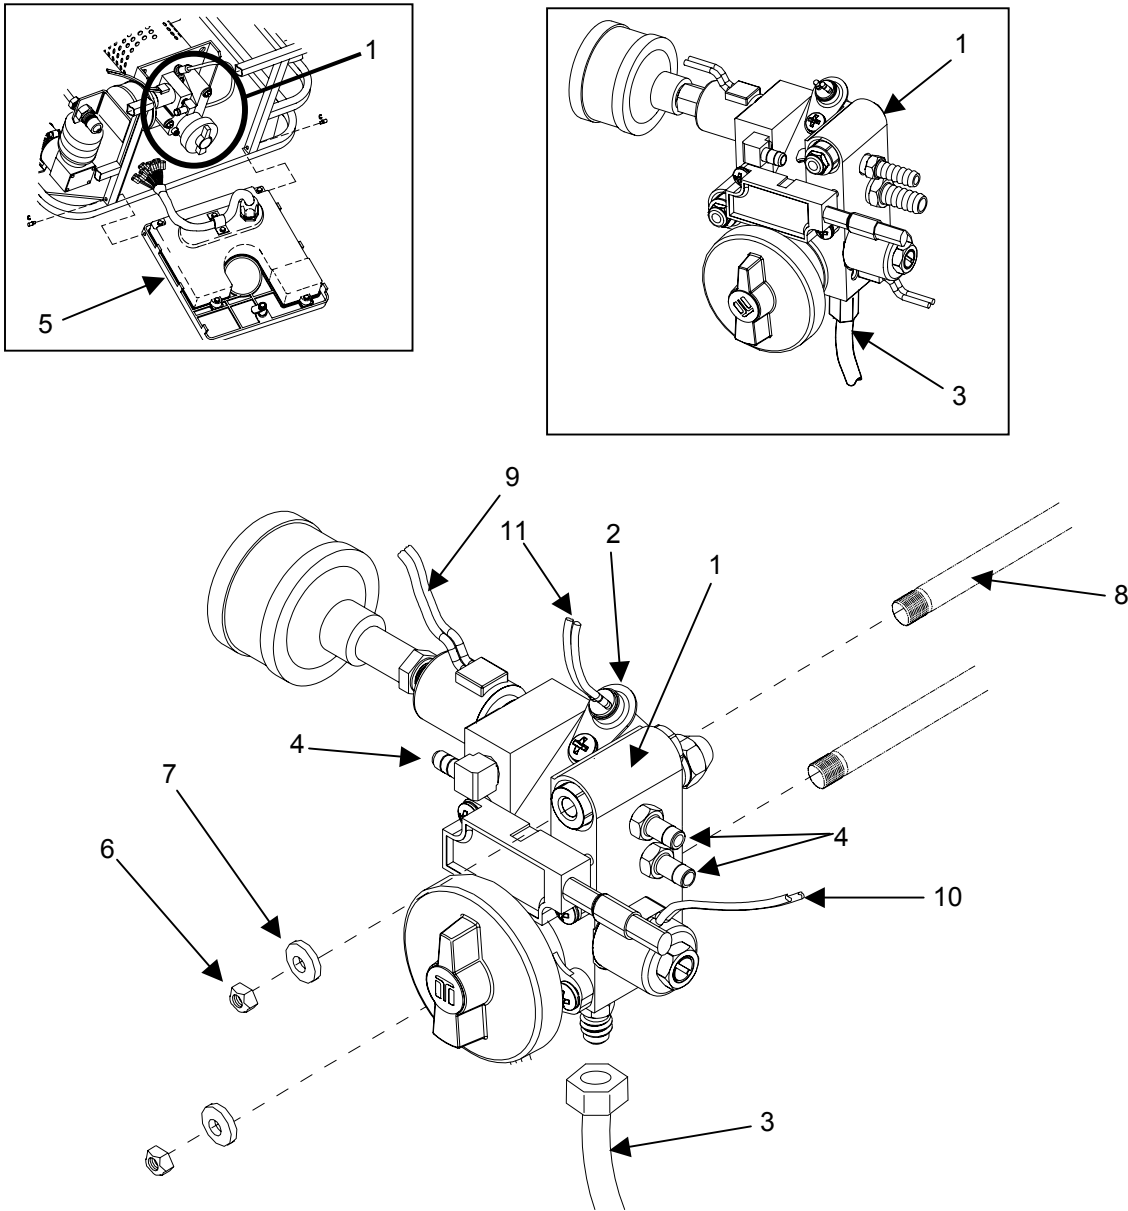

Figure 6. Remove/Install the Fuel Delivery Block from Burner Tube Mounting Studs
The fuel delivery block (**figure 6, item 1**) MUST BE TEMPORARILY REMOVED from the burner tube mounting shafts when replacing the ignitor (**figure 6, item 2**), fuel line (**figure 6, item 3**), or air lines (**figure 6, item 4**).
- a. Open control panel (**figure 6, item 5**) for access to the fuel delivery block assembly (**figure 6, item 1**).
- b. Disconnect the fuel line (**figure 6, item 3**).
- c. To remove fuel delivery block assembly (**figure 6, item 1**), remove two self locking nuts and washers (**figure 6, item 6, figure 6, item 7**) that secure the fuel delivery block assembly to the burner tube mounting shafts (**figure 6, item 8**).
- d. Slide the fuel delivery block assembly (**figure 6, item 1**) off the threaded studs of the burner assembly (**figure 6, item 8**).
- e. Remove the three air lines (**figure 6, item 4**) and disconnect electrical connections for the air fill solenoid valve (**figure 6, item 9**), fuel solenoid valve, and ignitor (**figure 6, item 11**).
- a. Slide the fuel delivery block assembly (**figure 6, item 1**) onto the threaded studs (**figure 6, item 8**) of the burner assembly.
- b. Install two self-locking nuts and washers (**figure 6, item 6, figure 6, item 7**) to retain the fuel delivery block assembly (**figure 6, item 5**) to the burner tube mounting studs (**figure 6, item 8**).
- c. Reconnect the fuel line (**figure 6, item 3**).
- d. Reconnect the three air lines (**figure 6, item 4**).
- e. Reconnect the electrical connections (figure 6, item 9), (figure 6, item 10), (figure 6, item 11).
- f. Close the control panel (figure 6, item 5).